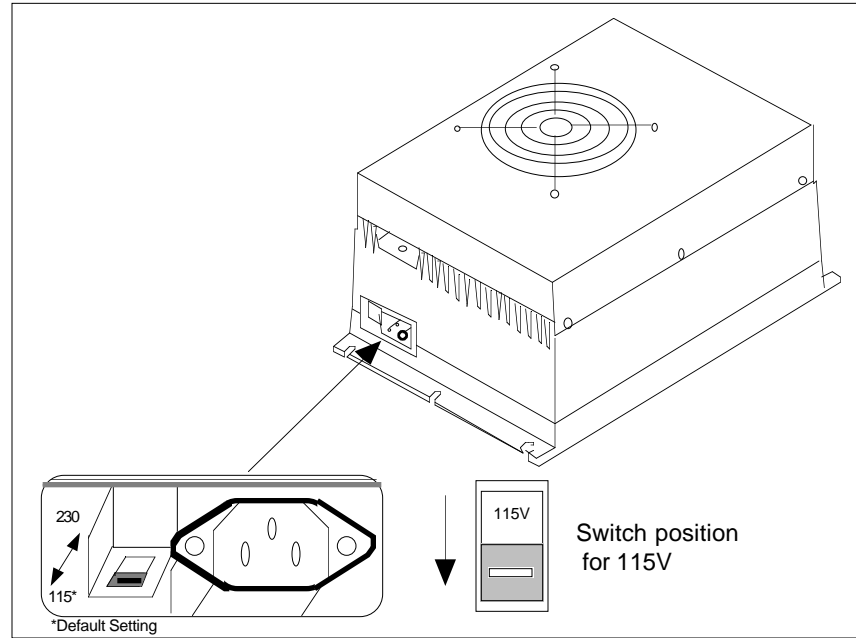

Figure 2-3. Voltage Select Switch Location
- ① Remove the clip and panel that cover the voltage select switch (Figure 2-3).
- ② Determine what supply voltage will be applied to the unit, 115 or 230VAC.
- ③ Set the voltage select switch to the position required.
- ④ Replace the switch cover and clip.